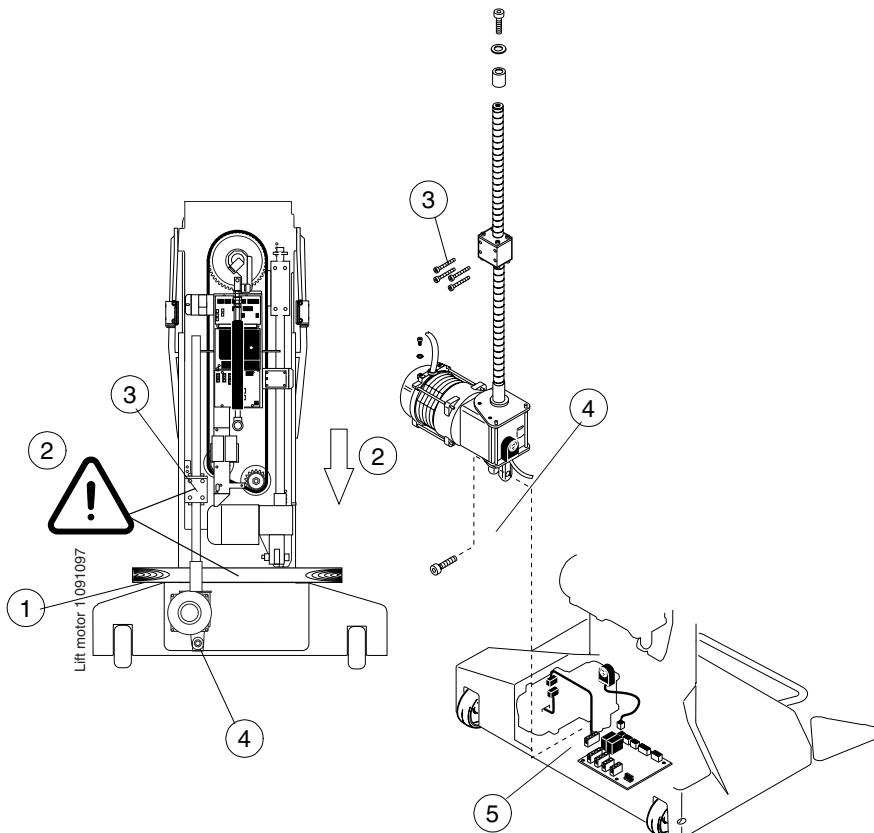

Figure H.30
- Turn on the power. Place a wooden rod on the base (Fig. H.30, 1).
- Drive the C-arm rotation motor **carefully** to hit the rod (Fig. H.30, 2). Turn off the power.
- Unscrew the Lift motor worm screw nut's screws (Fig. H.30, 3).
- Unscrew the Lift motor screw and nut (Fig. H.30, 4).
- Disconnect the Lift motor and the Pulse detector cables from the Base PCB (Fig. H.30, 5).